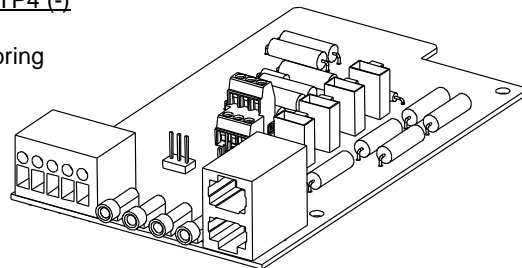

Figure 4-9
- 5) Carefully label any wires connected to the customer connection terminal block on the circuit card. These wires must be connected to the same terminals on the replacement circuit card. Refer to Figure 4-9.
- 6) Carefully label the connectors plugged into the circuit card. These connectors must be plugged into the same connectors on the replacement circuit card. Refer to Figure 4-9.